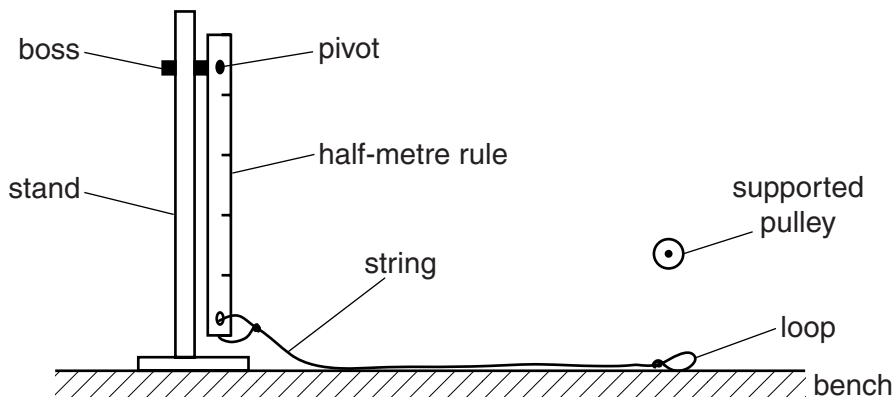

Fig. 1.2
7. Before the start of the experiment and at the changeover, the Supervisor should ensure that the string does not pass over the pulley and the mass P is removed from the second loop as shown in Fig. 1.2.